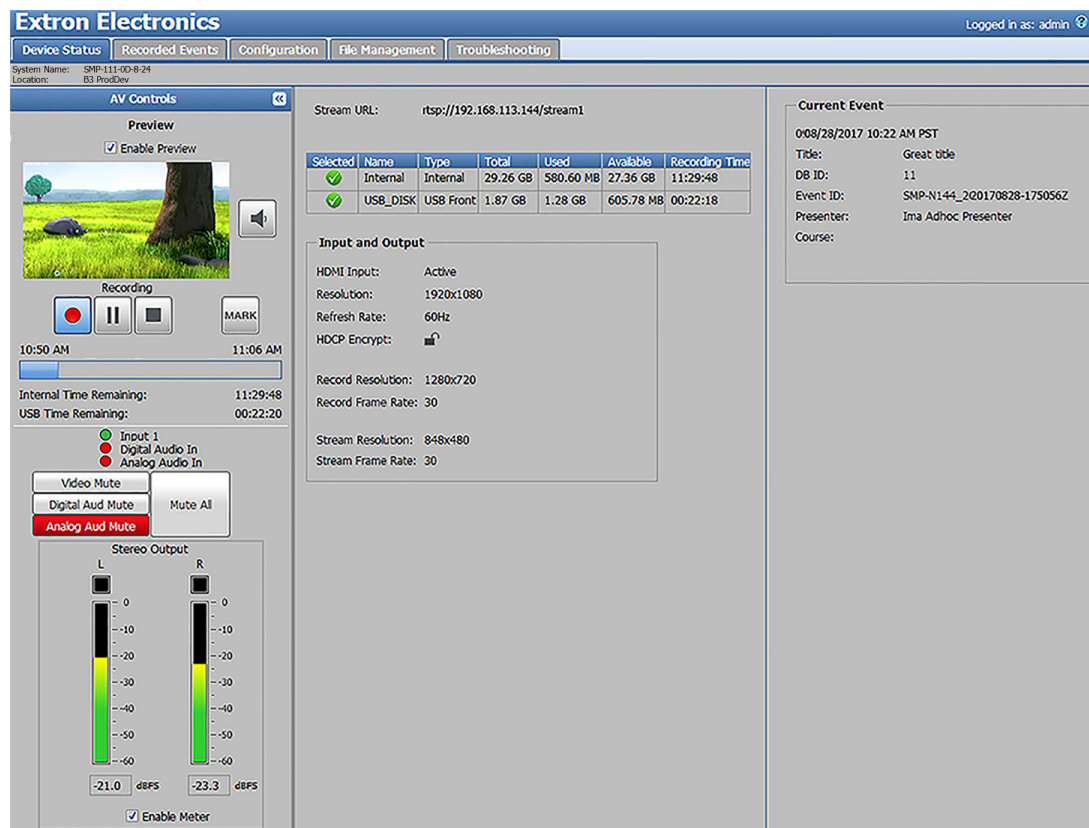

Figure 8. SMP 111 Embedded Web Pages
- In figure 8, the home page for a standard SMP 111 device is shown. If the Horizontal Video Mirroring LinkLicense is purchased, there is an additional **Mirroring LinkLicense** tab and Horizontal Video Mirroring Status section.